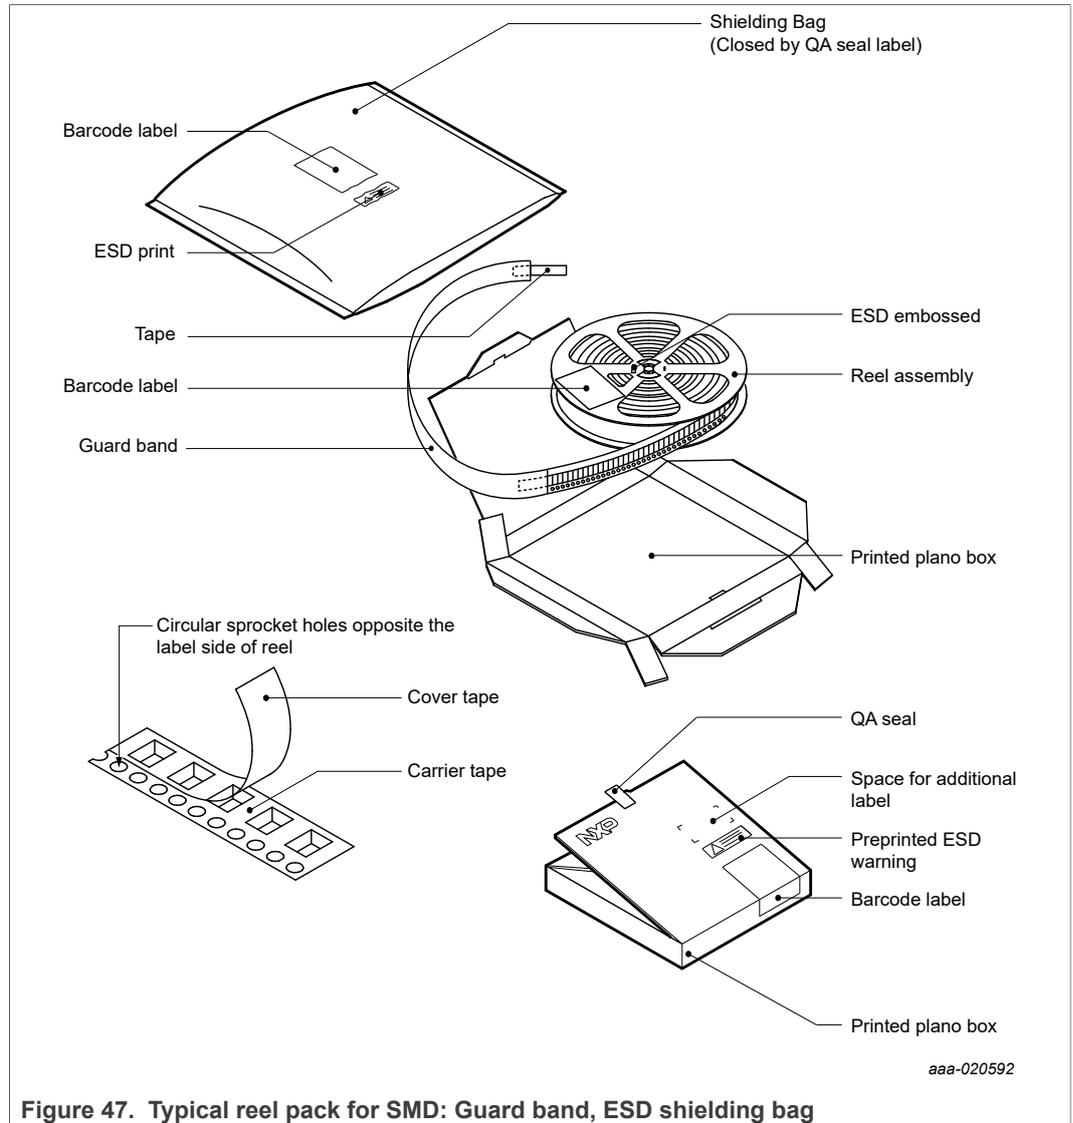

Figure 47. Typical reel pack for SMD: Guard band, ESD shielding bag
- NXP tape and reel carriers are in accordance with ANSI/EIA-481 (Figure 47).
| | | | Fig. 47. | Typical reel pack for SMD: Guard band, ESD shielding bag | 44 |